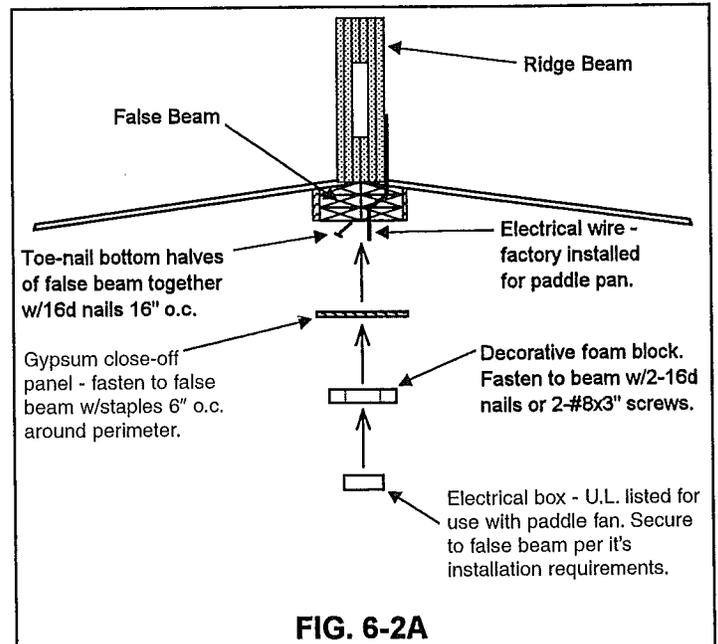

FIG. 6-2A
1. Remove the fan manufacturer's installation instructions from the package and determine the method of fan attachment to the beam (See Fig. 6-2A).